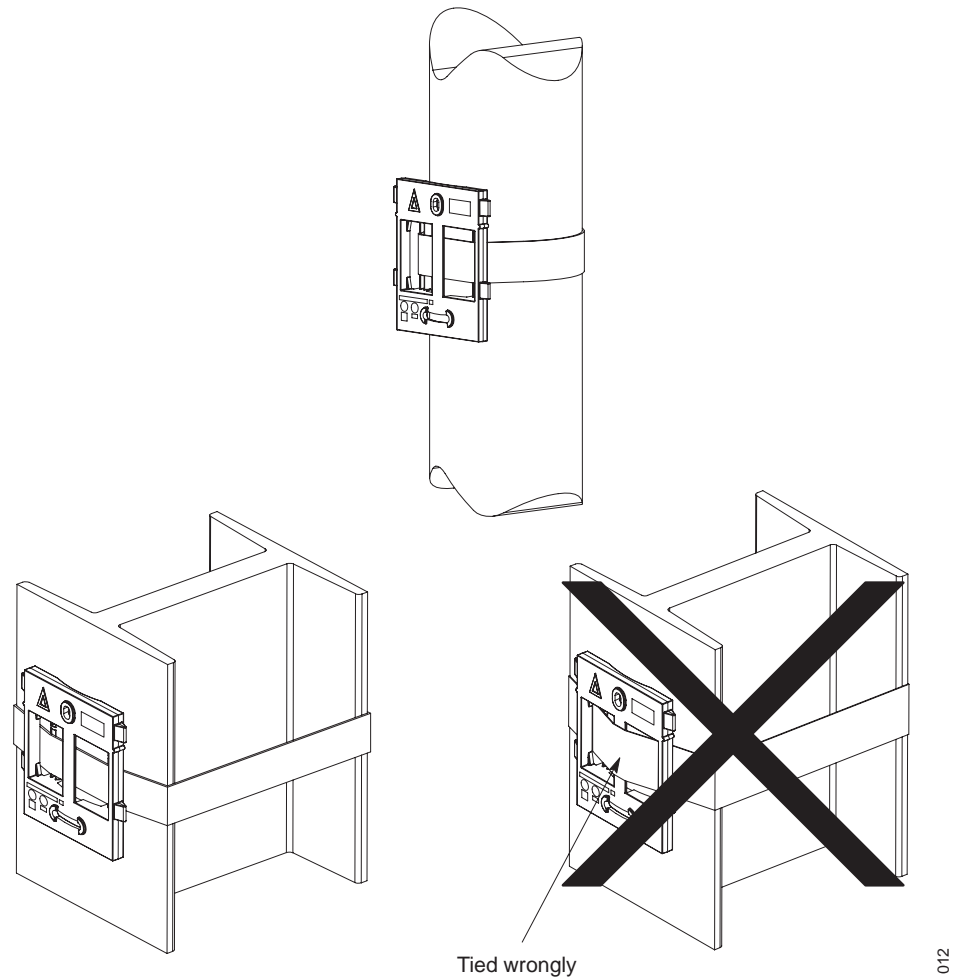

Figure 5. Fixing the mounting bracket to a pole or beam
- 1 Fix the mounting bracket to a pole or beam using the metal band, see Figure 5.